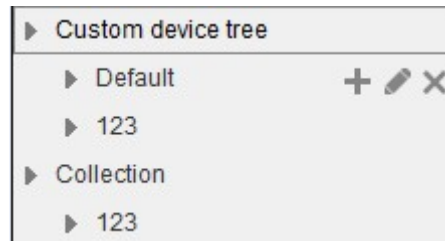

Figure 4-89
2. Enter group name and click “OK”. The system creates a new group, as shown in Figure 4-89.